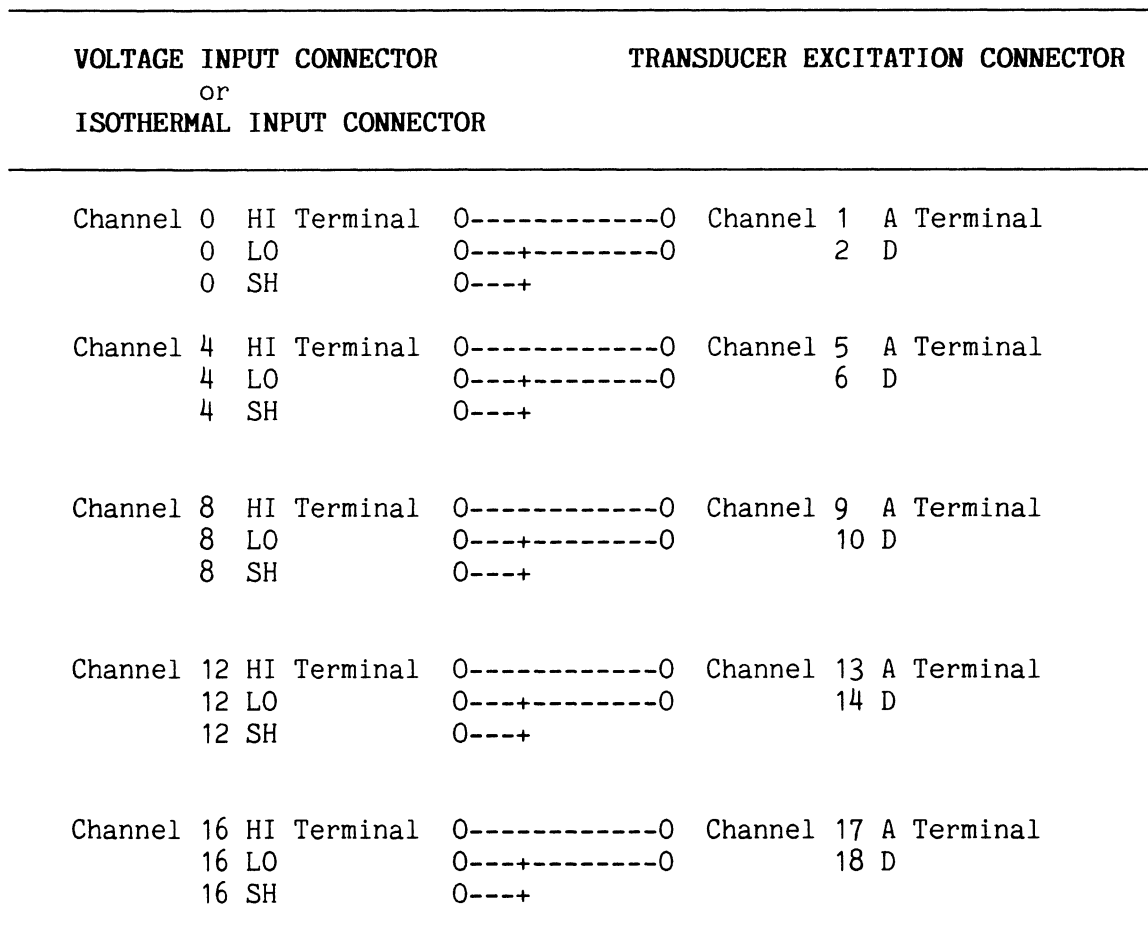

Figure 164-2. Current Excitation Test Wiring Diagram 1
- 7. Wire the Transducer Excitation Connector to an Isothermal Input or Voltage Input Connector according to the diagram in Figure 164-2.